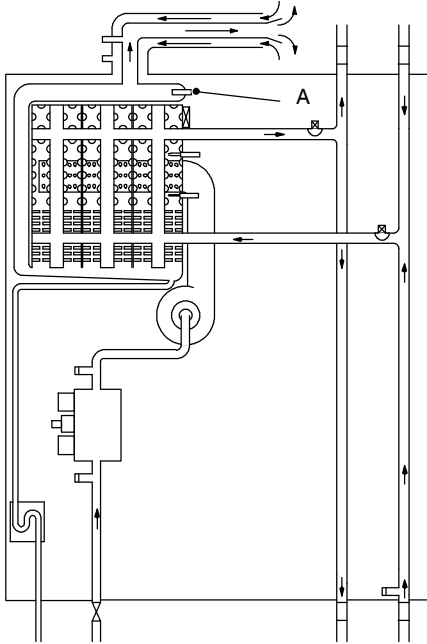
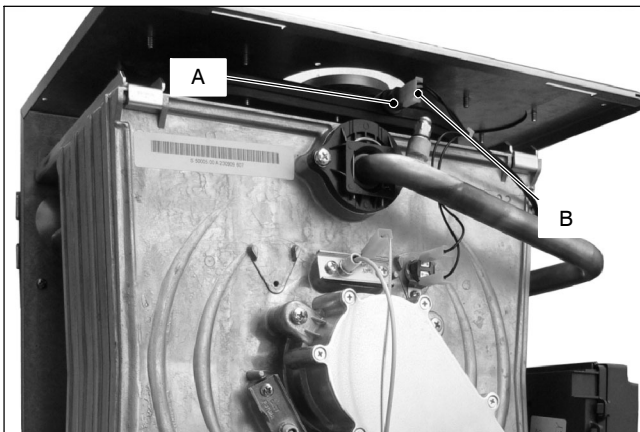

Fig. 13.1
Fig. 13.2
The Flue temperature probe NTC A in Fig. 13.1 and Fig. 13.2 senses the temperature of the combustion products that flow through the condensing heat exchanger.
- 3 Unscrew and remove the flue temperature probe A (Fig. 13.2) from the condensing heat exchanger.